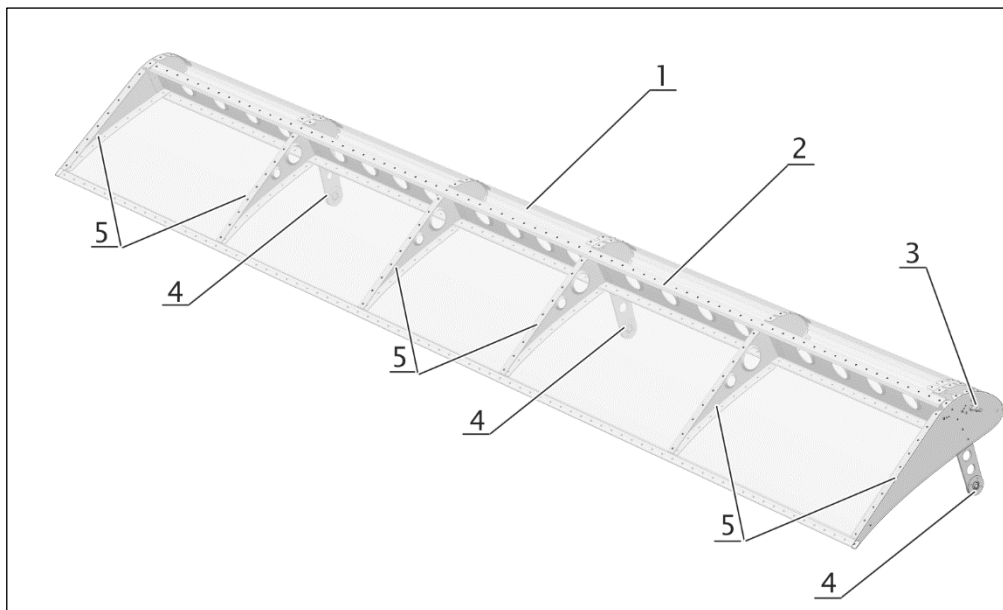

Figure 2 *Wing Flap (left)*
The wing flaps (Figure 2) are all-metal structures consisting of the skin (1) aluminum sheet metal, spar (2) and ribs (5) riveted together. The flaps are suspended on the rear spar by means of three hinges (4). There is a control plate (3) on the flap root rib where the flap control pin is connected.